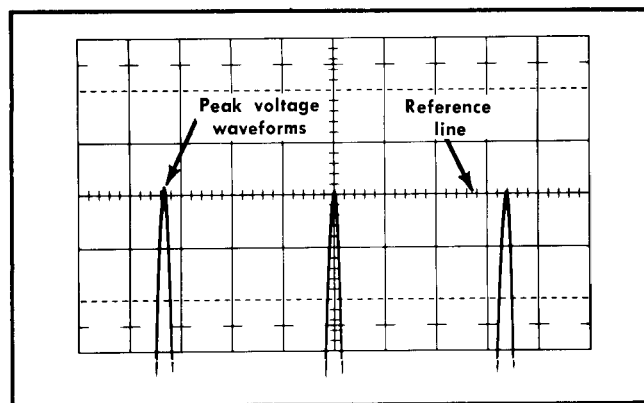

Fig. 6-7. Illustrating method of peak line voltage measurement; Type W plug-in vertical deflection factor 1 V/cm; sweep rate 5 milliseconds/cm.
l. Adjust the autotransformer output until the tips of the waveforms shown on the test oscilloscope reach the reference line established previously by the Type W. (See Fig. 6-7 for typical display). The test oscilloscope is now indicating 178 peak VAC at the autotransformer output, or 126 volts RMS ( $\text{RMS} \times 1.414 = \text{Peak}$ ).